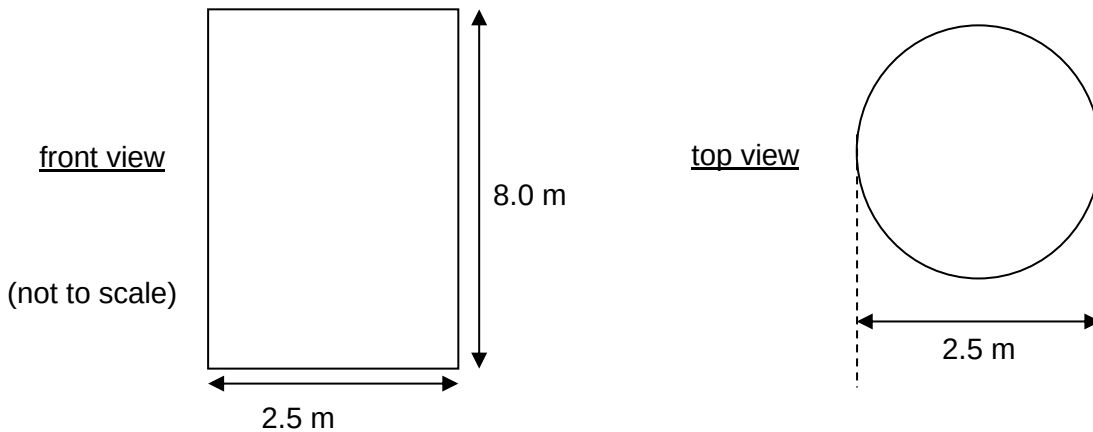

Fig. 7.5
- (e) The simplified dimensions of each column are given in Fig. 7.5.